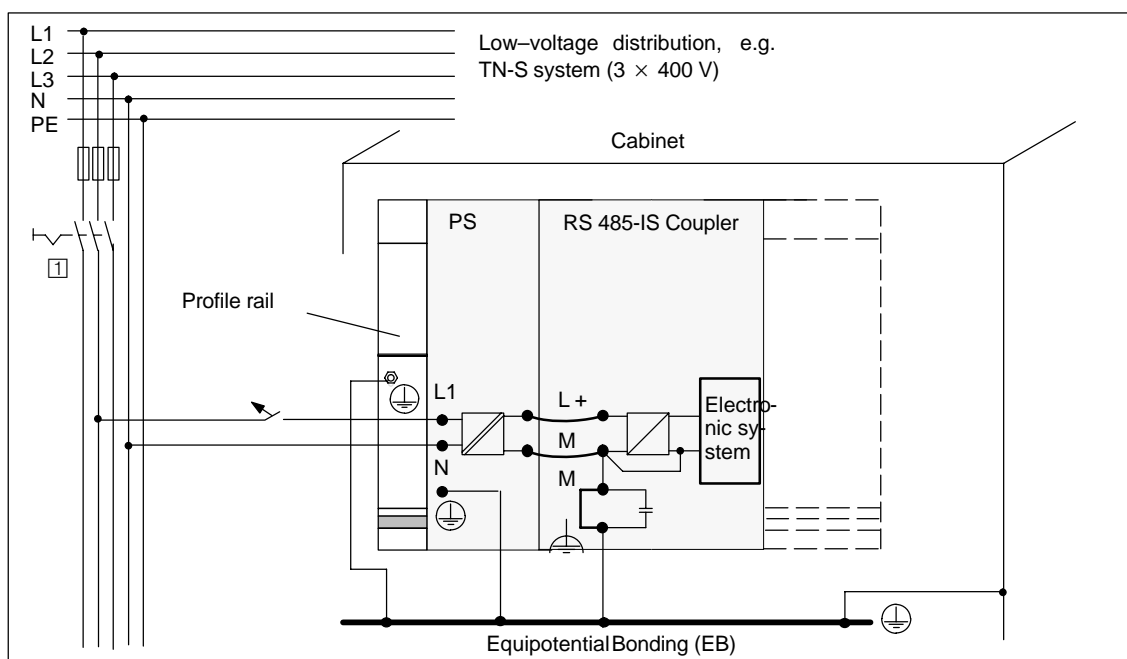

Figure 3 Operating the RS 485-IS Coupler on Grounded-Neutral Power Supply
- Master switch (see Figure 3,
Figure 3 shows the position of the RS 485-IS Coupler in a system connected to a TN-S power network. When the RS 485-IS Coupler is connected to grounded reference potential, all parasitic currents are discharged to ground via the grounding conductor.